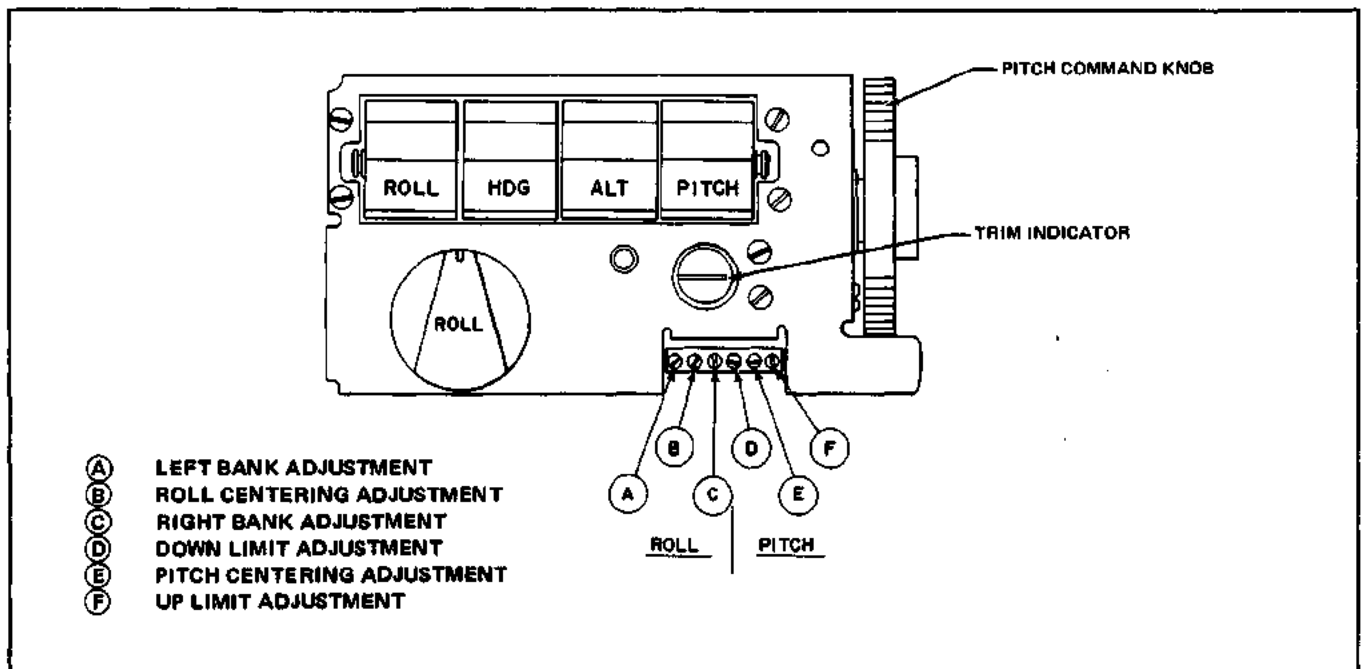

Figure 5-1. AltiMatic IIC Console
33. Find six adjustment potentiometers located on the front of the console and directly under the trim meter. (Refer to Figure 5-1.) Insert **SMALL** slot head screwdriver in **SECOND HOLE FROM LEFT** and adjust the roll centering adjustment until needle of voltmeter of Power Section Test Box centers and holds on **ZERO**. If unable to adjust needle to **ZERO** by rotating the adjustment screw, replace console.
20. With a small slot head screwdriver adjust the FIFTH POTENTIOMETER from the left, located directly below the trim meter on the console, to center the needle on the Power Section Test Box to ZERO. (Refer to Figure 5-1.)